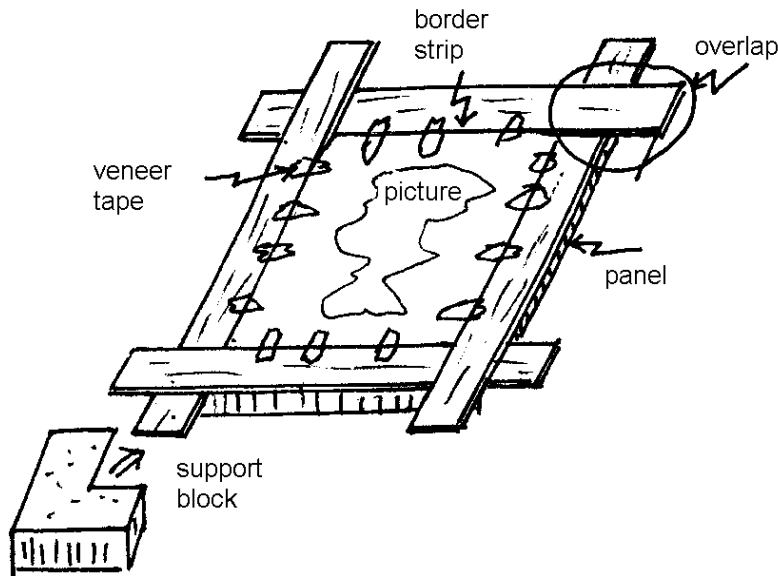

Figure 10
Step 3 - Border (Figure 10)
Place a notched support block of the same thickness as the panel at the corner to be mitred (**Figure 10**). Cut through the overlapping border strips with a knife. Many people draw the knife towards the centre of the panel because it prevents spreading of the mitre, but be careful not to cut into the picture. Tilt your knife blade ever so slightly to undercut the mitre to make up for the wedge-shaped cut the knife blade makes. Mark and cut the remaining mitres.